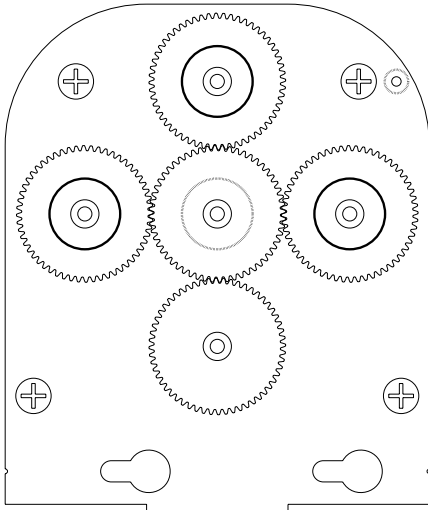

Figure 1.
- To make **3-stranded** ropes use any 3 outer axles (*fig. 1*).